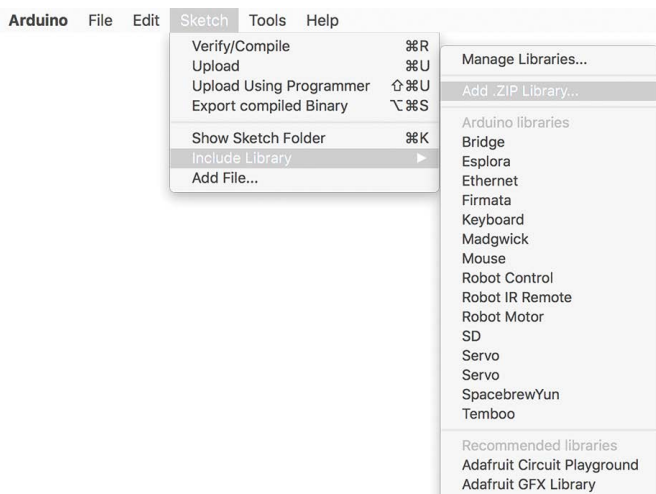

FIGURE 5.2: Selecting Sketch > Include Library > Add .ZIP Library
2. In the Arduino IDE, choose Sketch > Include Library > Add .ZIP Library (Figure 5.2).